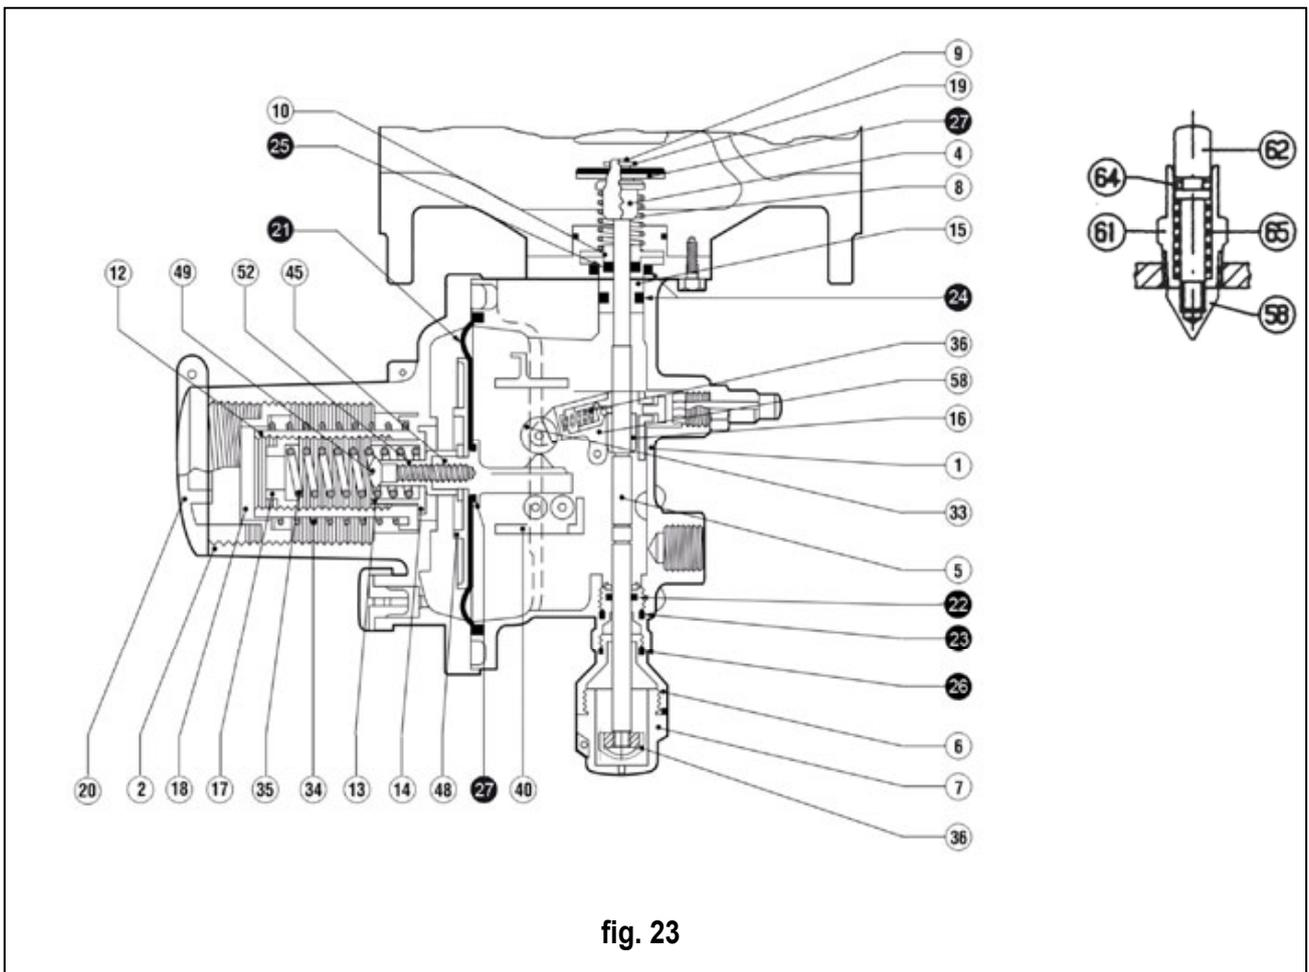

fig. 23
6.2 Tab. 8 SLAM-SHUTH (fig. 23)
7.4 LA/:: SLAM SHUTH VALVE (fig. 23)